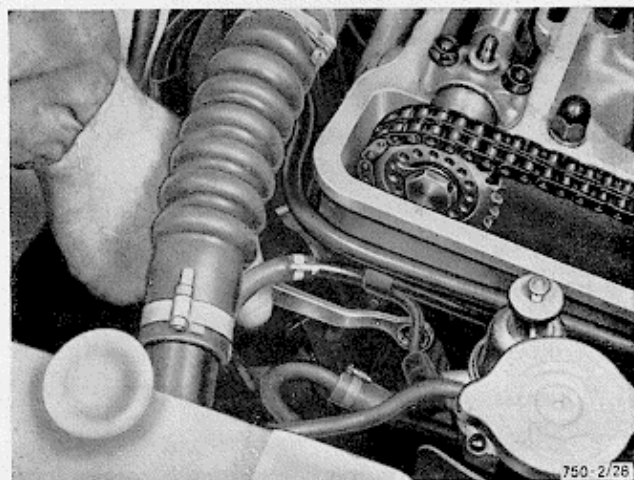

Fig. 28 - Loosening the screw locking the chain-tensioning
- a) slacken the locking bolt on the tensioning device (fig. 28) ;